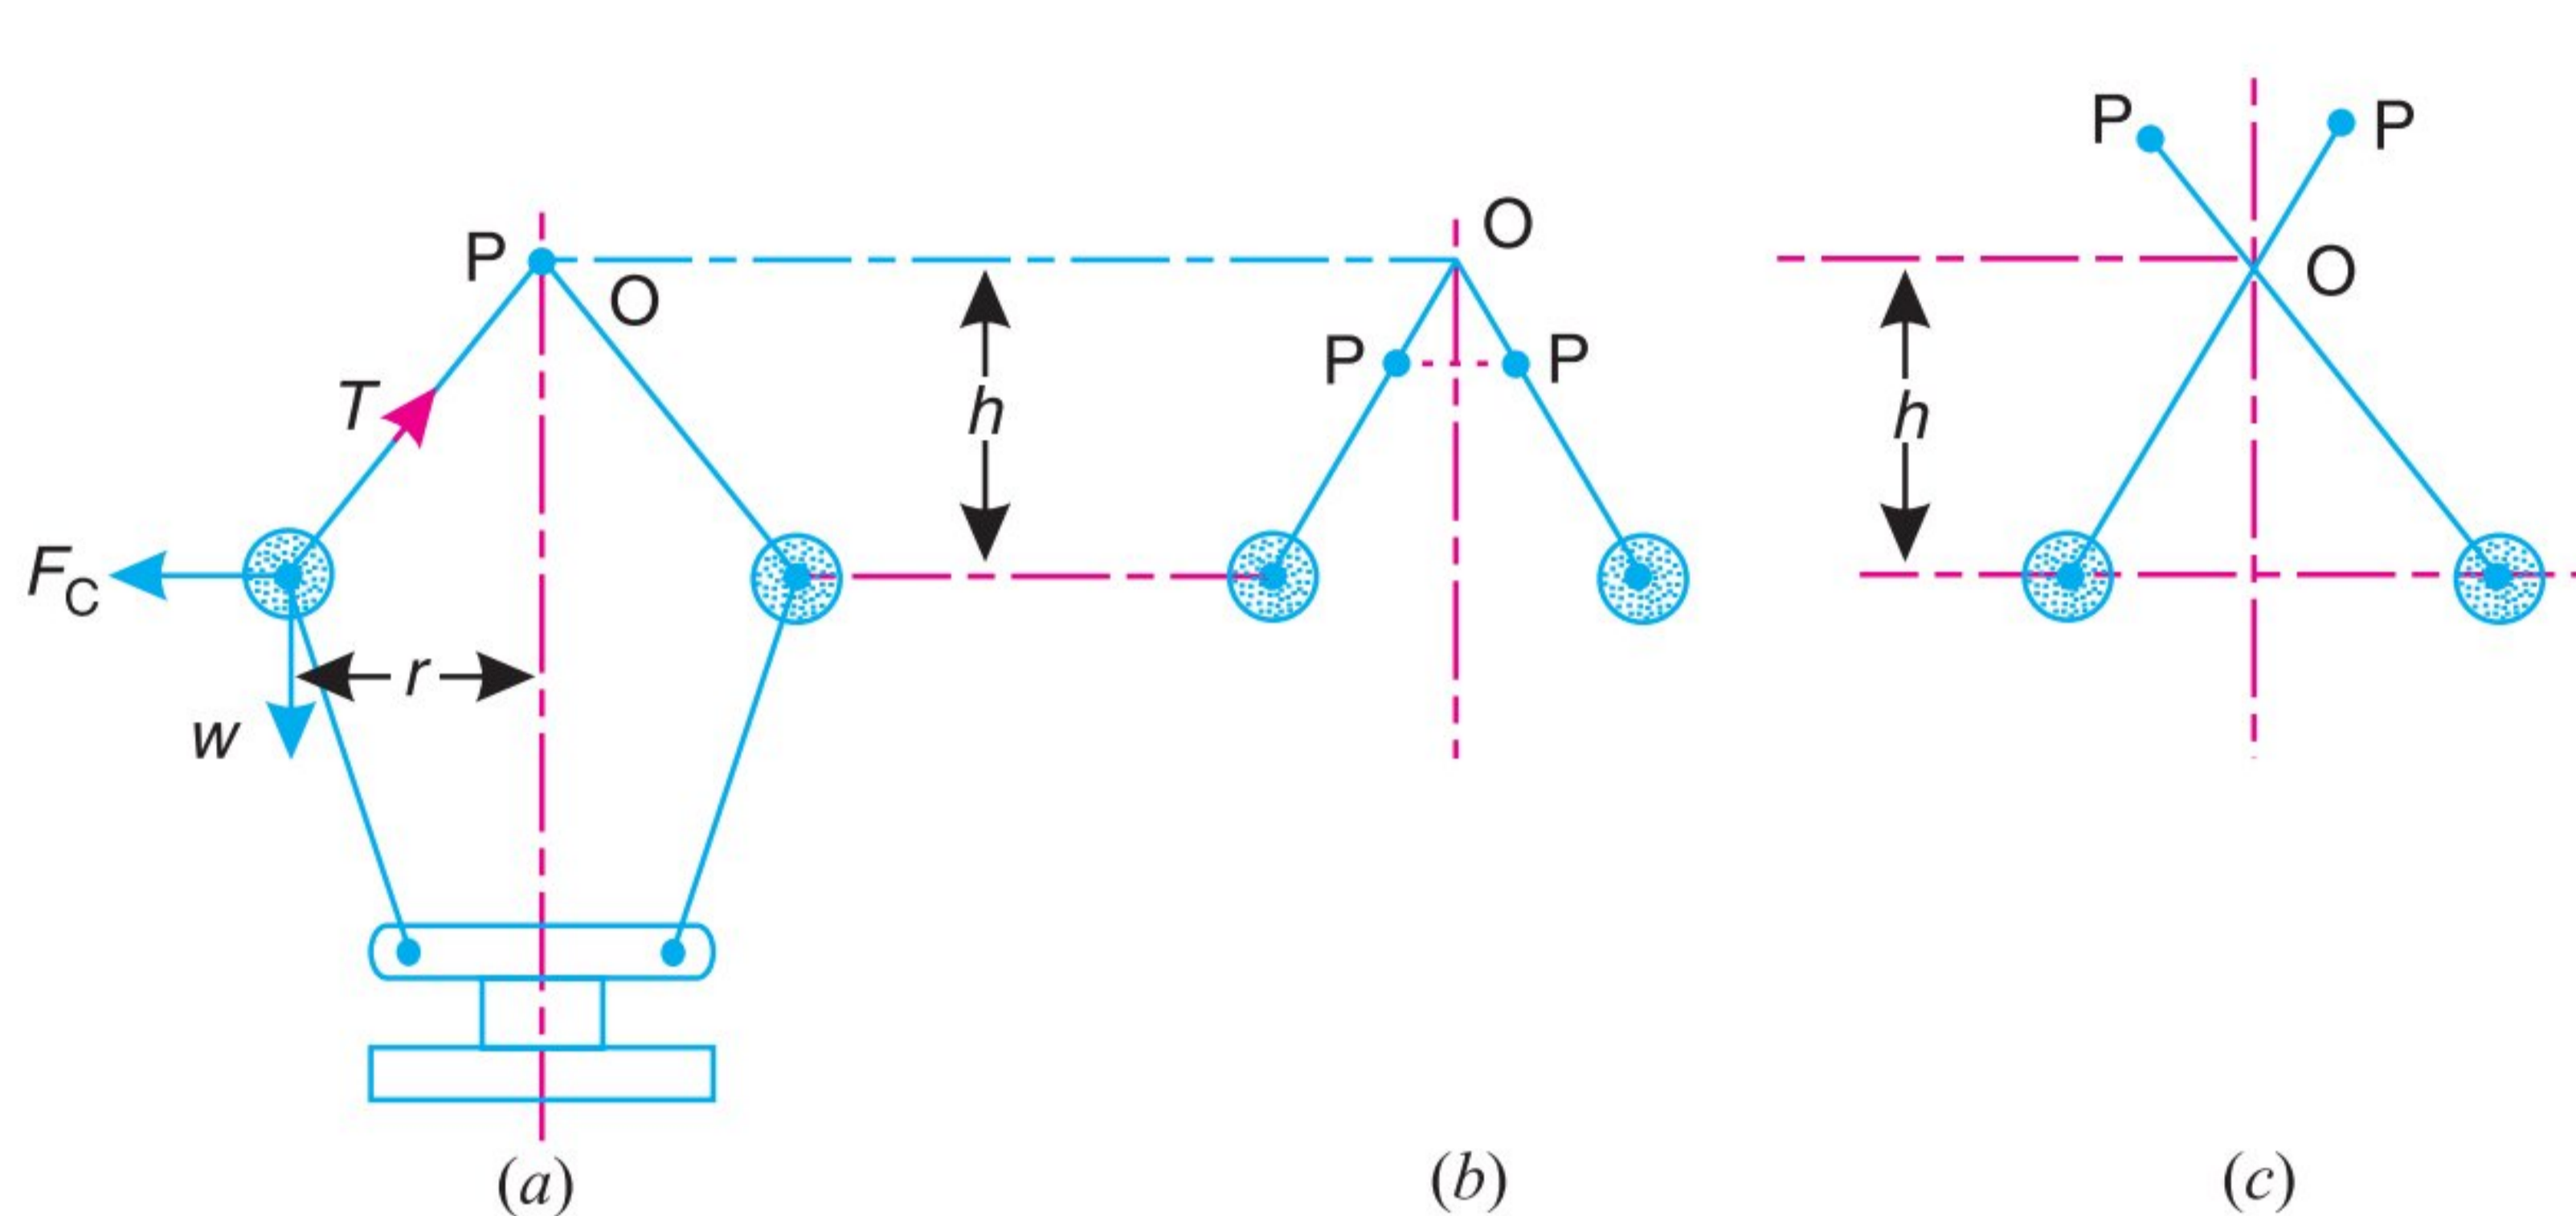

Fig. 18.2. Watt governor.
The simplest form of a centrifugal governor is a Watt governor, as shown in Fig. 18.2. It is basically a conical pendulum with links attached to a sleeve of negligible mass. The arms of the governor may be connected to the spindle in the following three ways :
1. The pivot P , may be on the spindle axis as shown in Fig. 18.2 (a).
2. The pivot P , may be offset from the spindle axis and the arms when produced intersect at O , as shown in Fig. 18.2 (b).
3. The pivot P , may be offset, but the arms cross the axis at O , as shown in Fig. 18.2 (c).